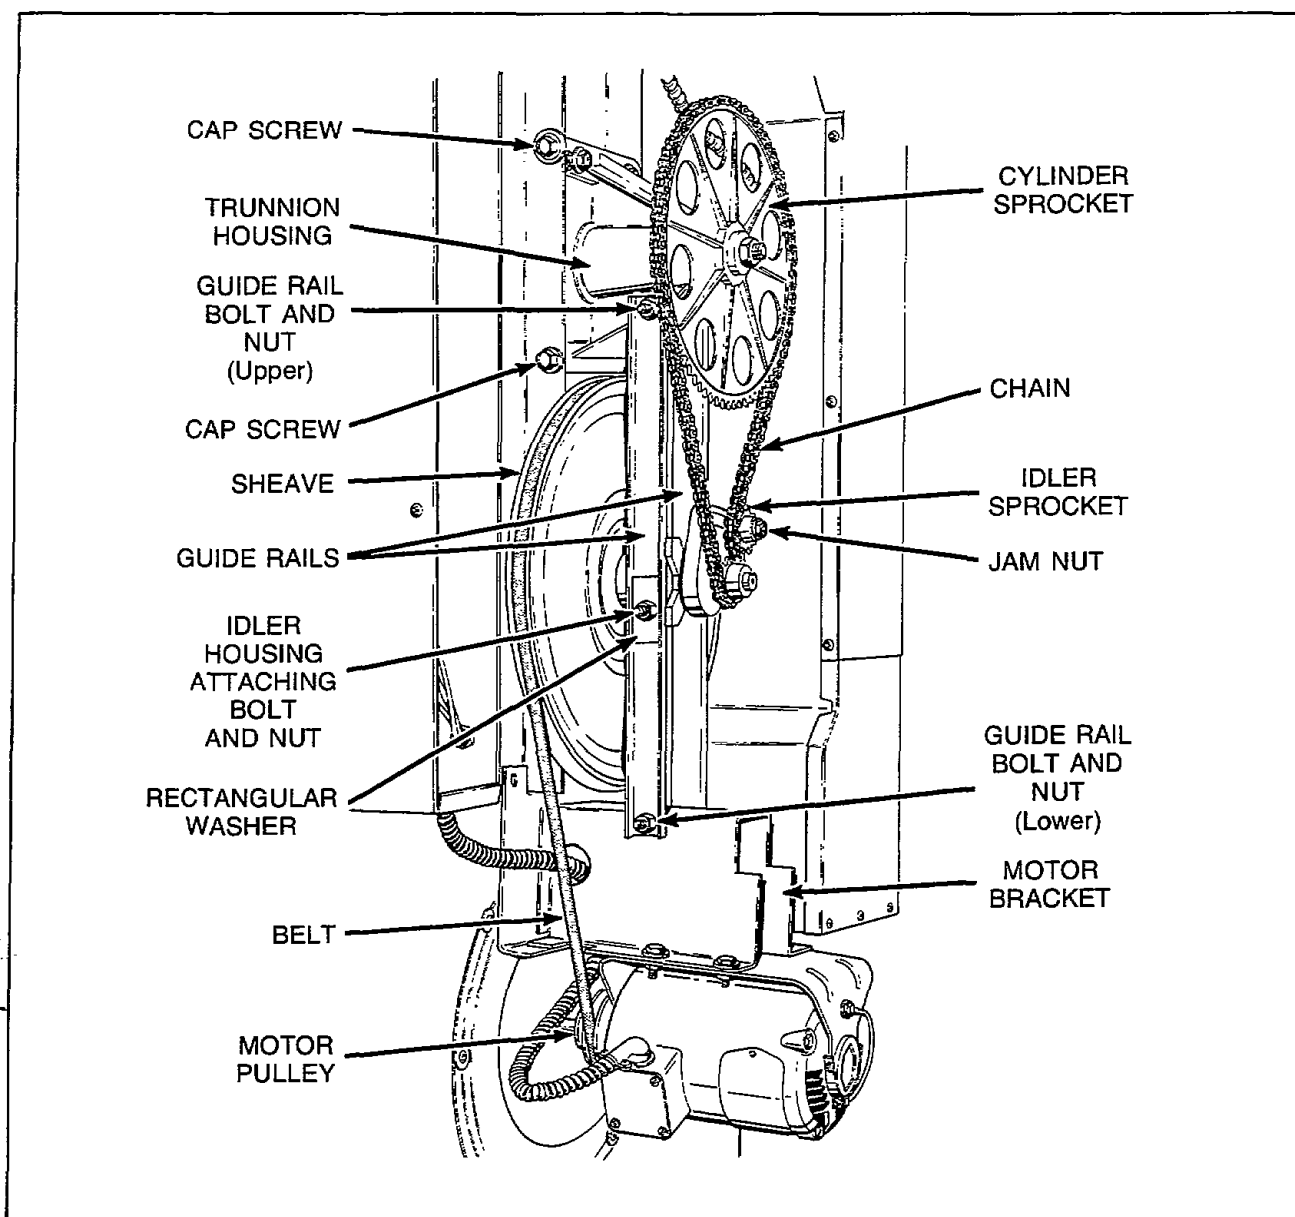

Figure 23
- c. Run belt off sheave and motor pulley, Figure 23.
- d. Loosen upper bolt and nut holding guide rails to trunnion housing, Figure 23.
20. **CHAIN** (Refer to Figure 23)
21. **IDLER SPROCKET** (Refer to Figure 23)
22. **SHEAVE** (Refer to Figure 23)
### 23. IDLER HOUSING (Refer to Figure 23)
## 24. CYLINDER SPROCKET (Refer to Figure 23)
- c. Remove four cap screws holding trunnion housing assembly to rear of tumbler cabinet, *Figure 23*.
- b. Loosen nut on top guide rail bolt, *Figure 23*.
- d. Remove the nut from the bottom guide rail bolt, *Figure 23*.